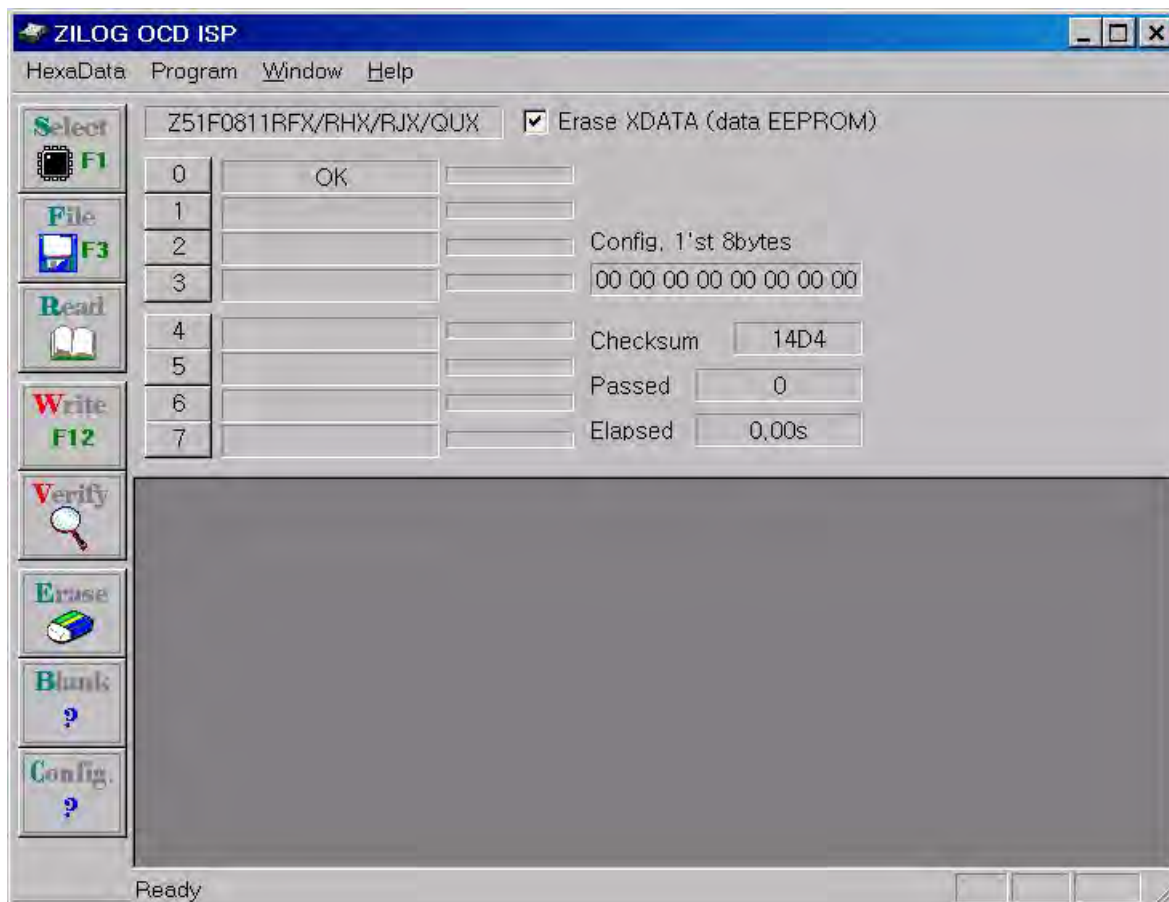

Figure 80. OCD ISP Dialog
3. The OCD_ISP dialog box appears, as shown in Figure 80. After a hexadecimal file has been loaded, this dialog displays the name of the target device and a data checksum value, as highlighted in the figure.